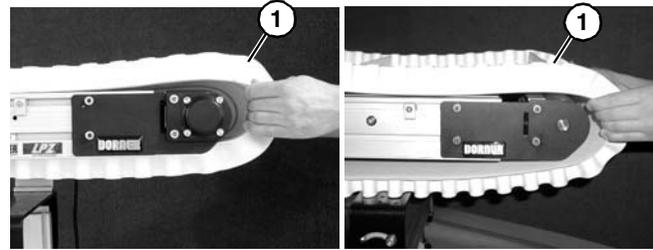

Figure 32
- Install belt (**Figure 32, item 1**) on conveyor. Lift conveyor slightly to avoid pinching belt on temporary support stands.